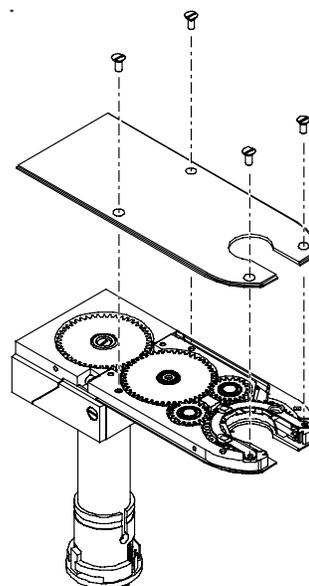

Figure 47 Removing the Brush Side Cover
5. Remove the four plastic flathead screws securing the brush side cover. See Figure 47.